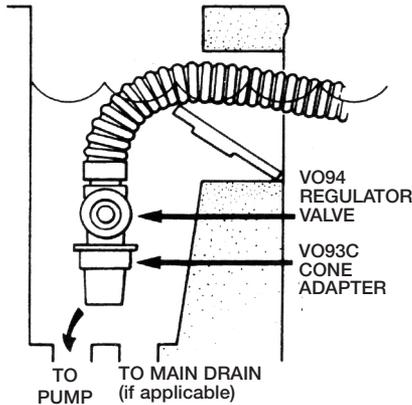

Figure 4
Check the water flow reading on the Flow Gauge. (Refer to Step 4, Figure 2). The black disk should be in the box between the “MIN” and “MAX” markings. If the setting is higher than required with the black disk outside of the box on the “MAX” side and you have connected your hose to the skimmer, it will be necessary to reduce the vacuum/water flow by using a valve or valves in the filter system, or the Hayward V094 Regulator Valve or an optional Hayward Automatic Skimmer Vacuum Plate designed to adjust vacuum/water flow. To install the V094 Regulator Valve, turn the filter system off. Remove the hose from the V093C Skimmer Cone, and after closing the Regulator Valve (Rotate the blue collar clockwise/toward + until closed/tight), insert the Regulator Valve into the Skimmer Cone, and insert the hose end into the Regulator Valve (see Figure 4).
Some skimmers have two (2) holes in the bottom. There might be a valve, float or cover over the holes. Remove everything in the skimmer, exposing the holes. The rear hole is usually the suction port. In some cases it will be necessary to use the V094 Regulator Valve to control water flow through the Pool Vac Ultra (*see Figure 4*).